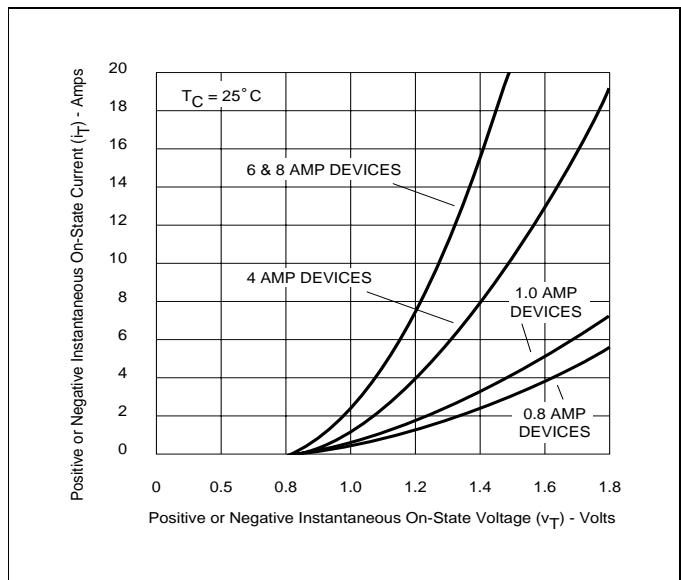

Figure 1.4 On-State Current vs On-State Voltage (Typical)
- See Figure 1.4 for i_T vs V_T .